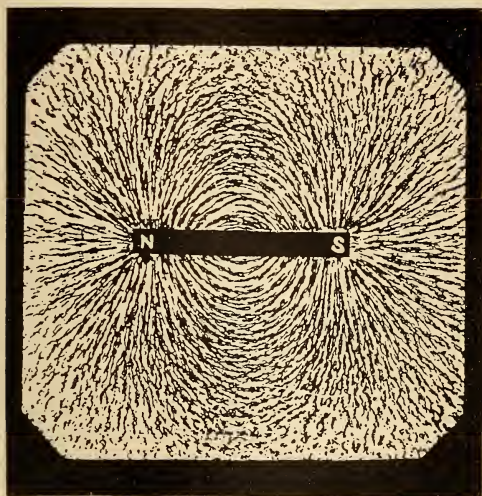

FIG. 36.
readily seen by the use of iron filings. For example, suppose the bar magnet, (NS) Fig. 36 (S. P. Thompson's "Dynamo-Electric Machinery,") be supported in a horizontal position as on a table, and a plate of glass is placed over it in a horizontal position. If now, finely divided iron filings be sprinkled evenly over the upper surface of the glass plate, and the plate be slightly tapped by a lead pencil or penholder, the iron filings will at once assume the peculiar groupings shown in the figure. The magnetic streamings pass freely through the glass plate and especially through the iron filings. These particles becoming magnetic assume positions like beads strung on the stream lines of magnetic flux.